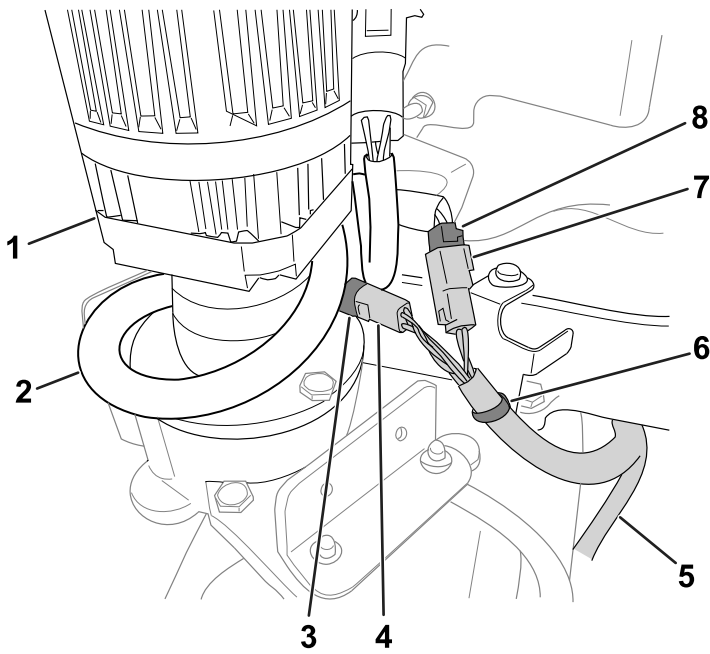

Figure 7
3. Route the remaining gearbox-wire-harness connectors toward the steering motor (Figure 7)
4. Cut the tie wrap that secures the machine harness to the bracket, leaving the push-mount in place (Figure 7). Discard the tie wrap.
5. Connect the gearbox connectors to the machine wire-harness connectors (Figure 7):
6. Wrap the extra machine wire harness slack around the steering motor as shown in Figure 7.
7. Using the tie wrap supplied in the kit, secure the gearbox harness to the push-mount as shown in Figure 7.